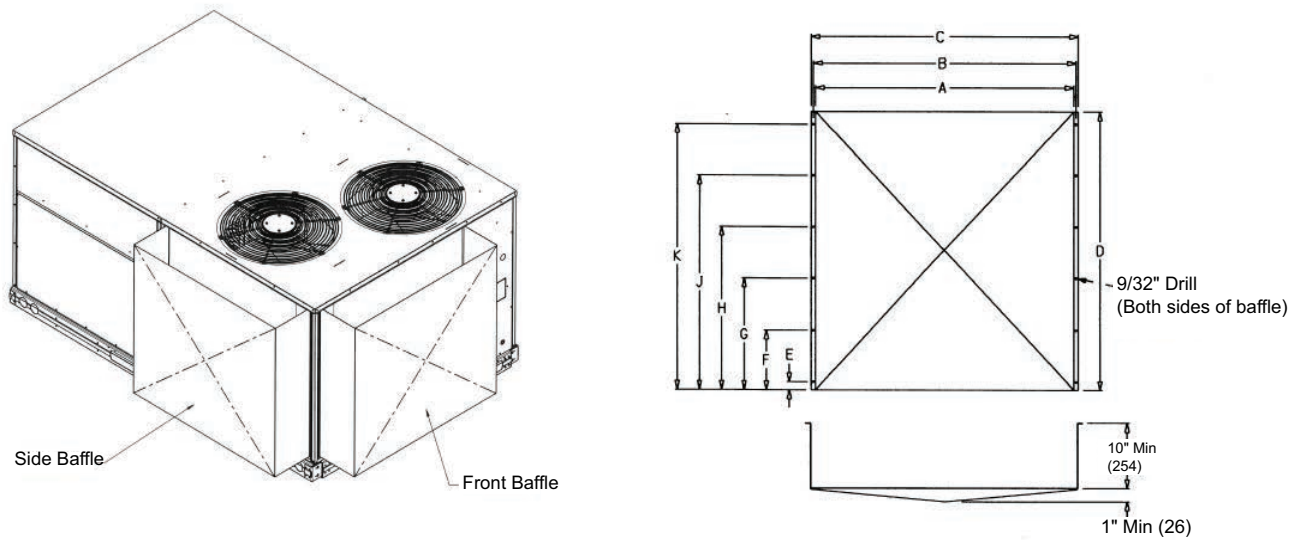

Fig. 8 — Wind Baffle Fabrication
16. Fabricate and install wind baffles. Refer to Fig. 8 and Table 3 on page 7.
metal baffles using Table 3 as shown in Fig. 8. Use 20 gauge sheet metal for the baffle material. Refer to Table 3 for wind baffle dimensions according to unit type and size.